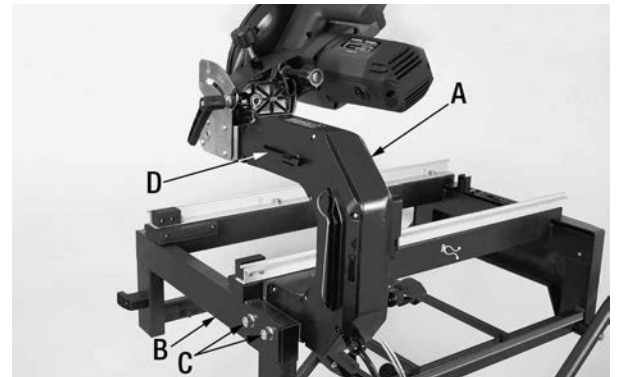

FIGURE 7
- 1) Position the head (A) Fig.7 up against the frame (B) and secure head to frame using 5 large cap screws and washers (C) Fig.7 and (A) Fig.8.
- 2) Secure the head to the frame by tightening the 5 cap screws using the supplied 8 mm hex. key (D) Fig.7, which can be found in the hex. key storage.